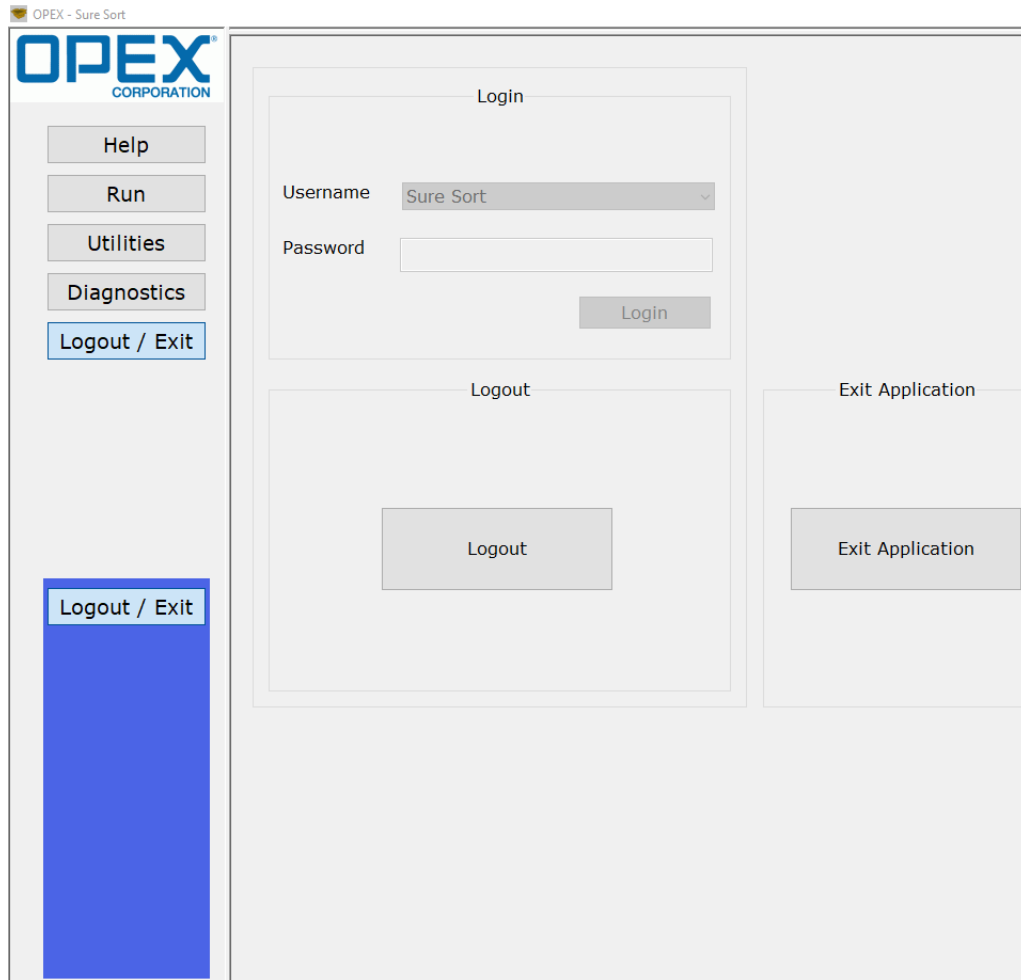

Figure 4-43: Host Software Interface Window
3. The Host Software Interface window appears (see Figure 4-43).